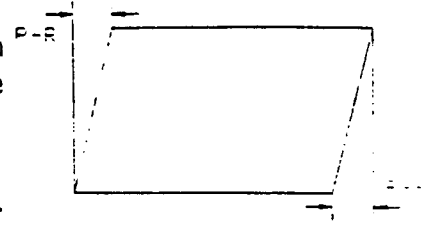

Figure 11
3. Press and rotate the Encoder to let  $P-R \leq 1.5$  mm. (See Fig 11).